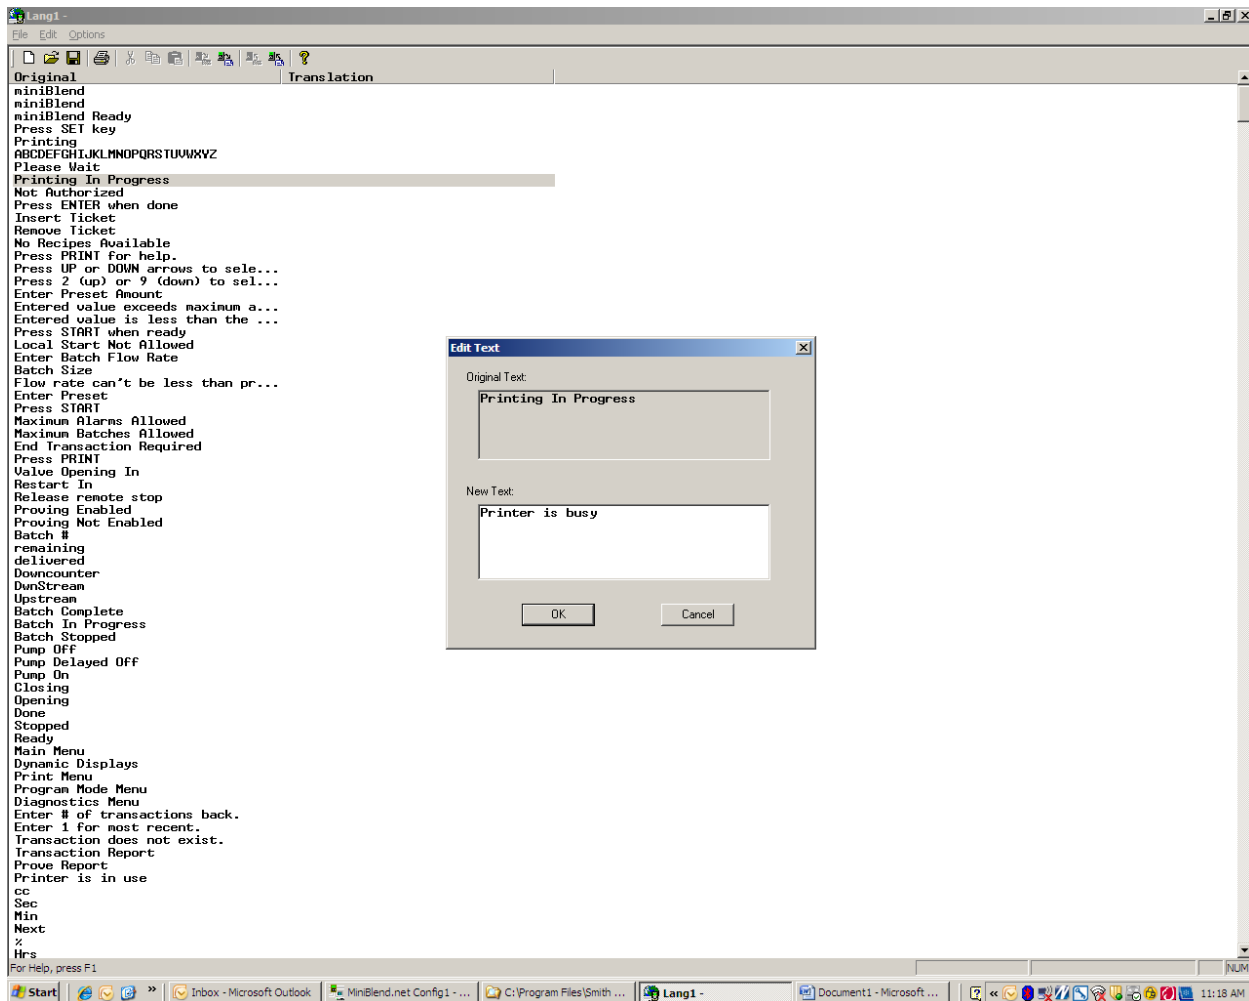

Figure 24 Editing Text
1. Double-click on the literal to be edited. A dialog box, similar to that shown in Figure 24, will appear on the screen.